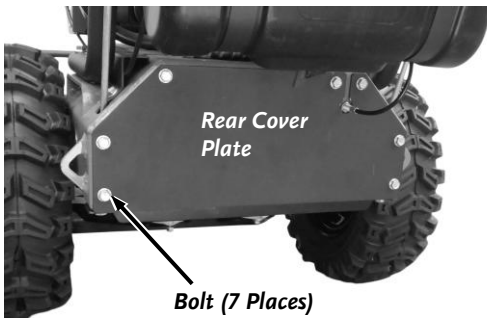

Figure 60
2. Remove the Rear Cover Plate using a 1/2" Wrench (**Figure 60**).